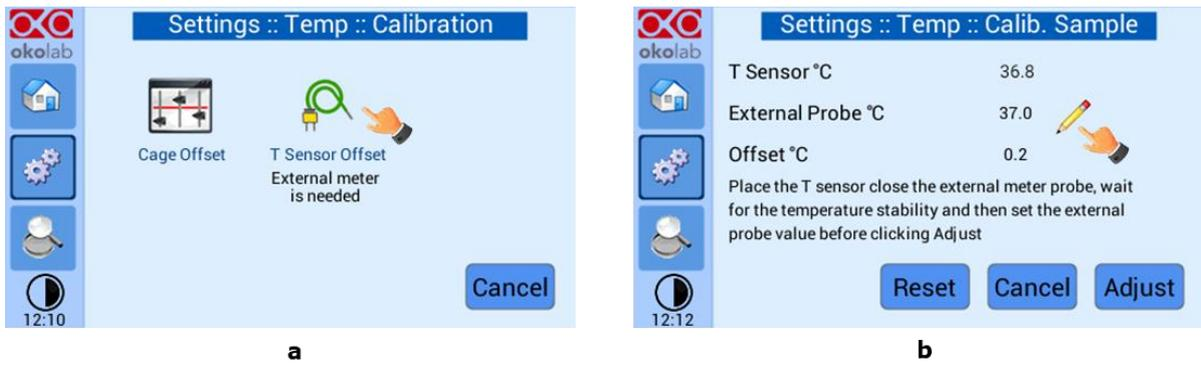

Figure 32. T sensor calibration (a-b)
4. Once the temperature reading of the external probe reaches a steady value, click on the pencil icon  as in Figure 32 b, and insert the value read by the external probe.